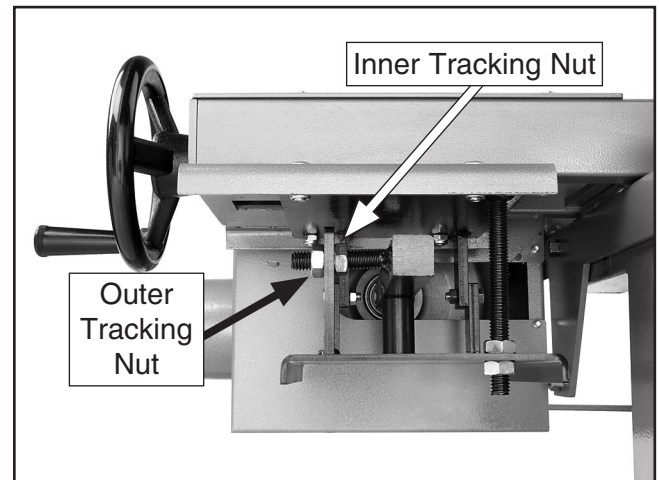

Figure 61. Belt tracking adjustment.
- Loosen the outer belt tracking nut (**Figure 61**)